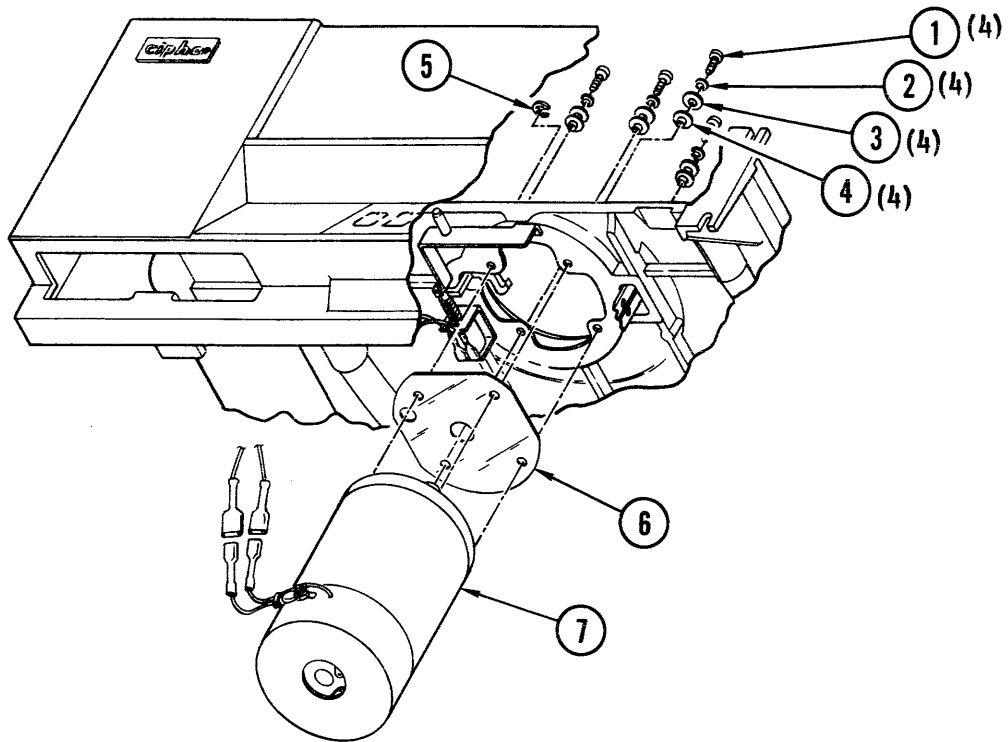

Figure 4-28. Supply Motor Assembly
- 4-44. **Removal and Replacement (Figure 4-28).** Place transport in service access position, in accordance with instructions in paragraph 4-3, and remove and replace the supply motor assembly as follows:
- d. Remove bell crank retaining ring (5, Figure 4-28).
- e. Remove screw (1) lockwasher (2), flatwasher (3), shoulderwasher (4), and insulator (6), holding motor (7) as last screw is being removed.
- f. Lower motor (7) from top plate, simultaneously slipping bellcrank off post on top of motor.